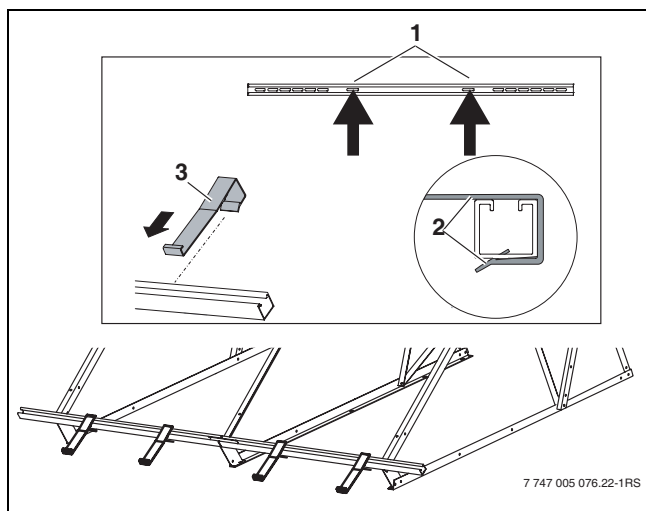

Fig. 18 Hooking in the anti-slip brackets
- Push each anti-slip bracket (Fig. 18, [3]) in the inner slots [1] from the outside over the profile rails until it clicks into place [2].